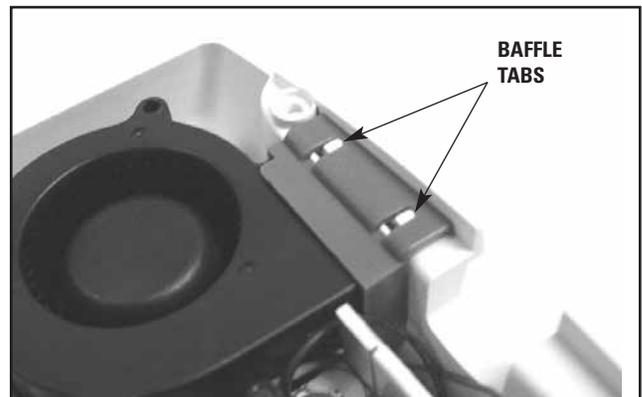

FIGURE 6.7
4. Make certain the Fan Baffle sits onto System Housing Baffle Tabs as shown in Figure 6.7.